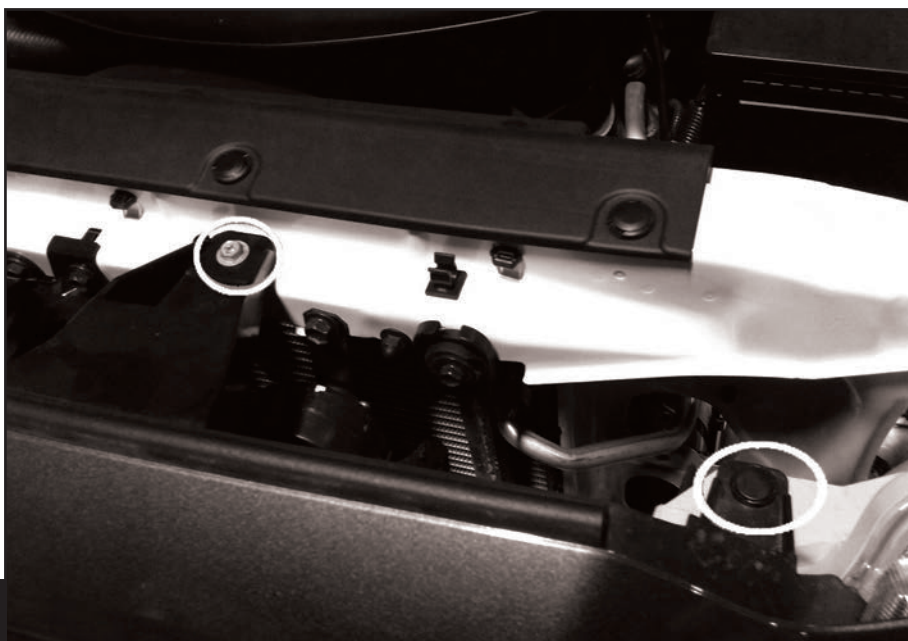

Fig 1
1. Remove (2) bolts and (2) clips holding grill on. Remove grill and set aside for reinstall (**Fig 1**).